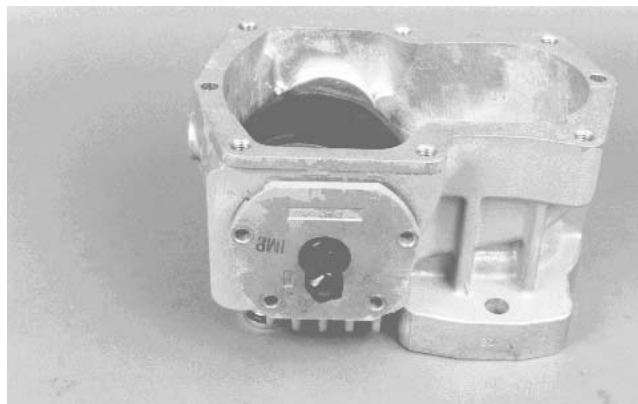

Figure 57
5. Install trunnion seal cover with O-ring, seal and trunnion bearing into housing and over swashplate trunnion (see Trunnion Seal Replacement) (Fig. 57).